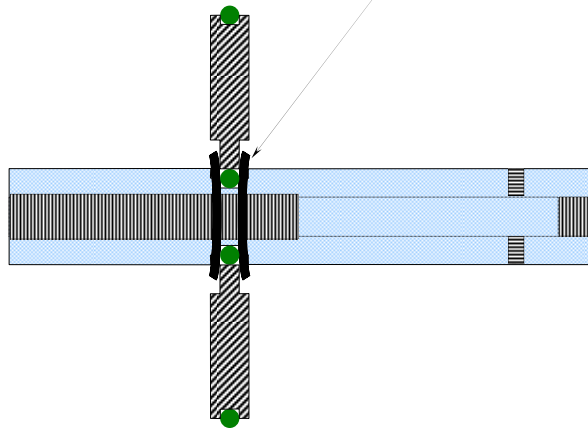

Figure 6
5. Fasten the piston in position with two new snap rings. The snap rings have a bevel on one side due to the way they were manufactured. Make sure the beveled side is facing the piston. See Figure 6.